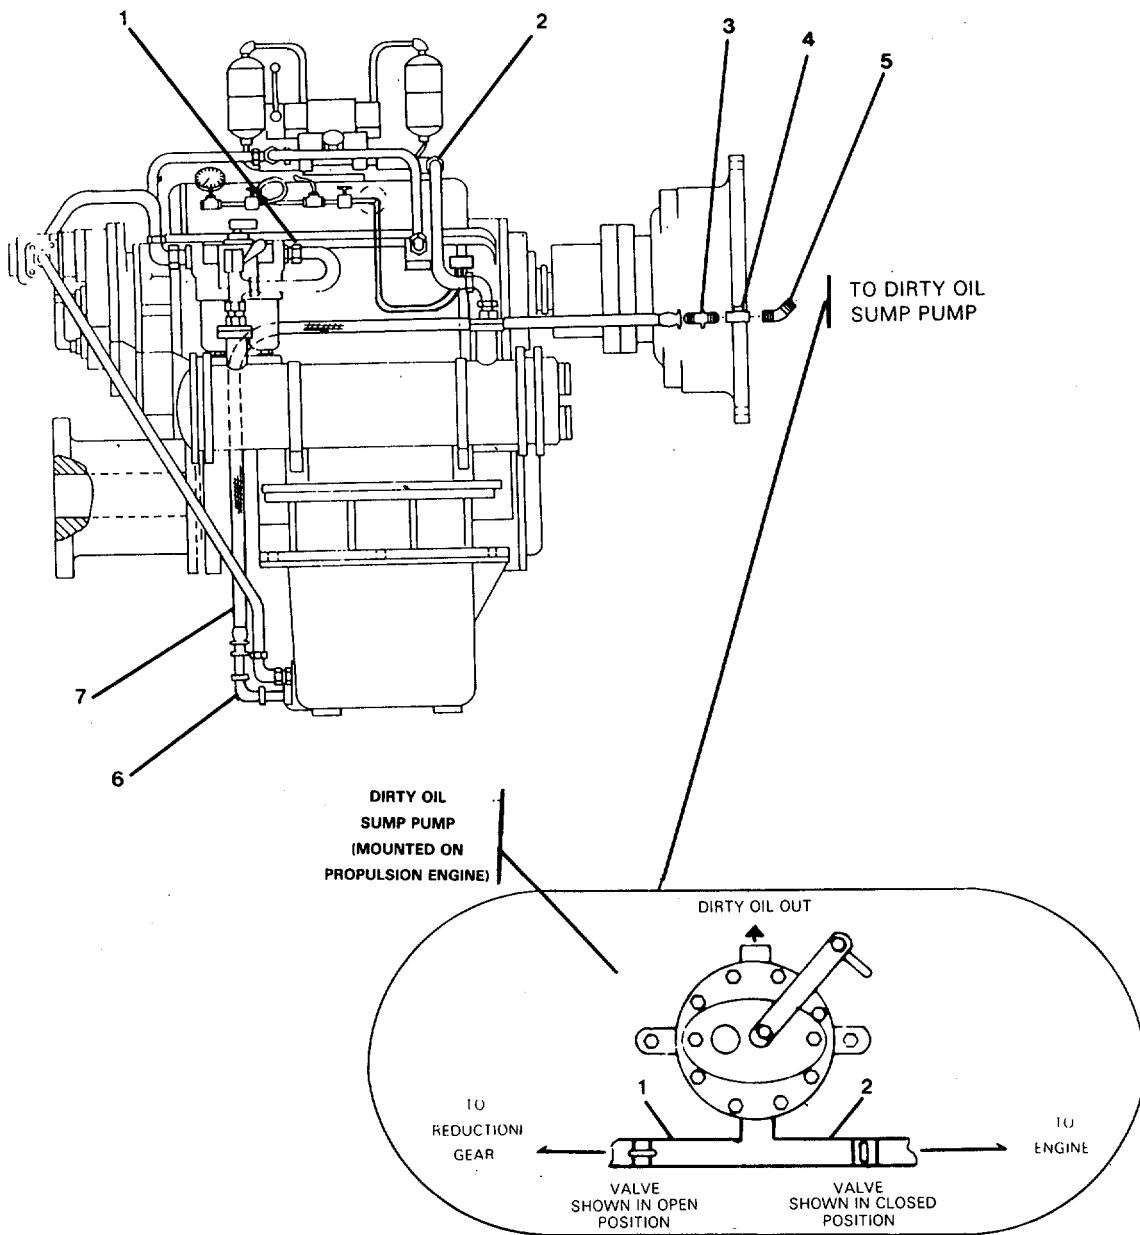

FIGURE 2-2. Hose Assembly, Dirty Oil.
2-15. Replace Nonmetallic Hose Assembly. (FIGURE 2-2)
2-16. Repair Nonmetallic Hose Assembly. (FIGURE 2-2)
- d. Remove two bolts (19) securing each of the two cooler mounting brackets (20) to the gearbox.
- e. Loosen the input and output oil lines (1 and 2, FIGURE 2-2) for freedom of motion to remove oil cooler.